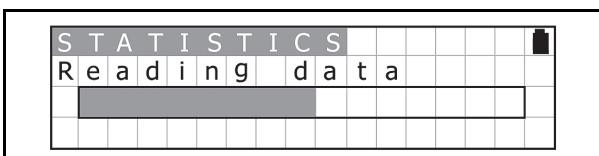

Figure 21 Acceptance Log Reading Screen
4. The LCD Screen will display a Progress Bar while the Acceptance Log is being read (See Figure 21).